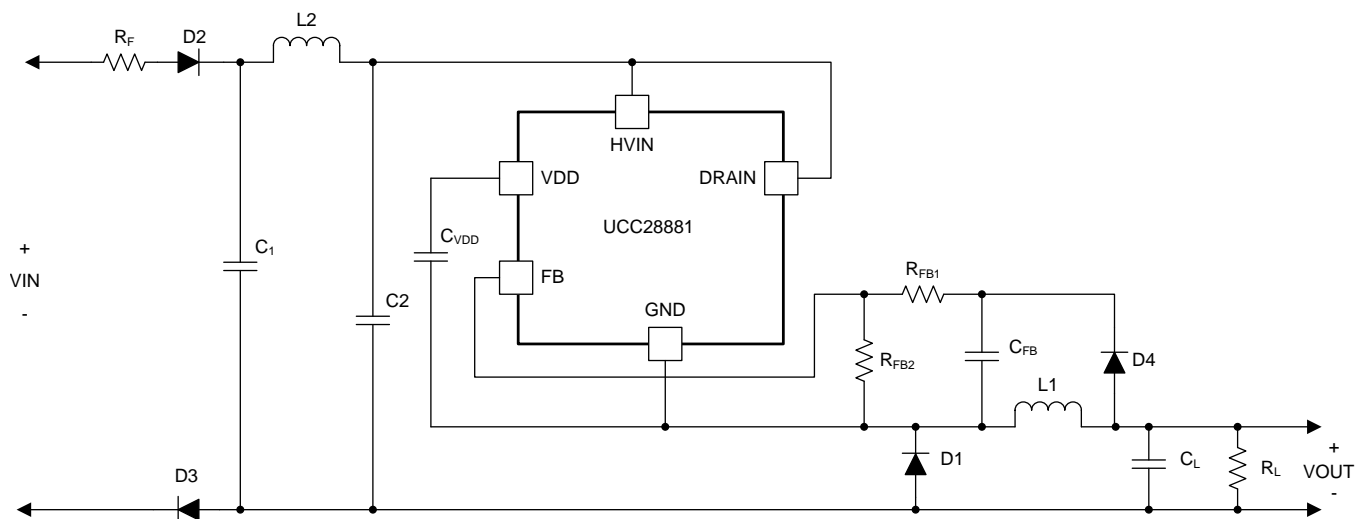

Figure 16. Universal Input, 12-V, 225-mA Output High-Side Buck
The UCC28881 can be used in various application topologies with direct or isolated feedback. The device can be used in low-side buck, where the output voltage is negative, or as a low-side buck-boost configuration, where the output voltage is positive. In both configurations the common reference node is the positive input node (VIN+). The device can also be configured as a LED driver in either of the above mentioned configurations. If the application requires the AC-to-DC power supply output to be referenced to the negative input node (VIN-), the UCC28881 can also be configured as a traditional high-side buck as shown in Figure 16. In this configuration, the voltage feedback is sampling the output voltage VOUT, making the DC regulation less accurate and load dependent than in low-side buck configuration, where the feedback is always tracking the VOUT. However, high-conversion efficiency can still be obtained.
Figure 16 shows a typical application example of a non-isolated power supply, where the UCC28881 is connected in a high-side buck configuration having an output voltage that is positive with respect to the negative high-voltage input (VIN-). The output voltage is set to 13 V in this example, but can easily be changed by changing the value of RFB1. This application can be used for a wide variety of household appliances and automation, or any other applications where mains isolation is not required.
- C_{BULK(min)} is minimum value for the total input capacitor value (C1 + C2 in the schematic of Figure 16).
In low-side buck converter the output voltage is always sensed by the FB pin and UCC28881 internal controller can turn on the MOSFET on VOUT. In high-side buck converter applications the information on the output voltage value is stored on C_{FB} capacitor. This information is not updated in real time. The information on C_{FB} capacitor is updated just after MOSFET turn-off event. When the MOSFET is turned off, the inductor current forces the freewheeling diode (D1 in Figure 16) to turn on and the GND pin of UCC28881 goes negative at $-V_{d1}$ (where V_{d1} is the forward drop voltage of diode D1) with respect to the negative terminal of bulk capacitor (C1 in Figure 16). When D1 is on, through diode D4, the C_{FB} capacitor is charged at $V_{OUT} - V_{d4} + V_{d1}$. Set the output voltage regulation level using Equation 16.
- R_{FB1} , R_{FB2} is the resistance of the resistor divider connected with FB pin (see Figure 16)